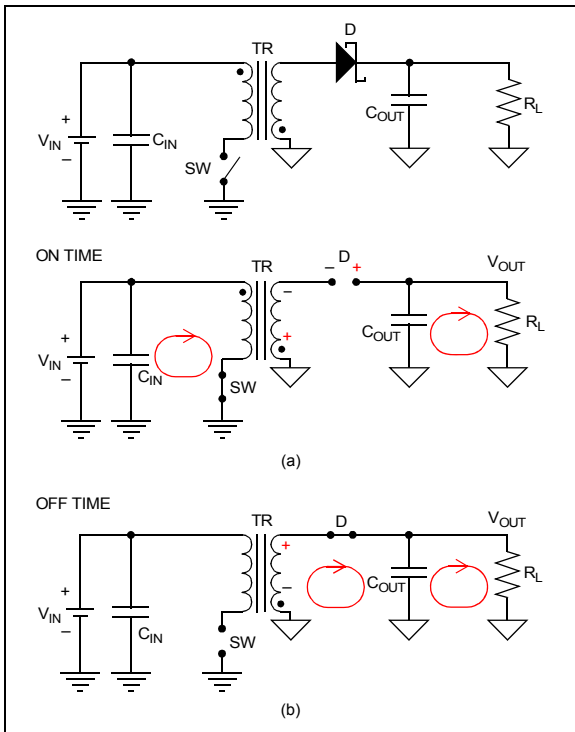

FIGURE 17: The States of the Flyback Converter in Operation.
The schematic of a Flyback Converter can be seen in Figure 17. It derives from the buck-boost topology, but uses a transformer instead of the inductor. A very important aspect is that flyback transformers have an air gap, which allows energy storing without the risk of core saturation occurrence. Therefore, the operating principle of both converters is very close:
- During the ON TIME (Figure 17, a), the primary winding of the transformer is connected to the input voltage source. The primary current and magnetic flux in the transformer increases, storing energy in the transformer's core. The voltage induced in the secondary winding is negative, so the diode is reverse biased. In this phase, the output capacitor supplies energy to the output load (LDO's input, in this application).
- During the OFF TIME (Figure 17, b), the primary current and magnetic flux drops. The secondary voltage is positive. The output diode is forward biased, allowing current to flow from the transformer to the capacitor and to the load.